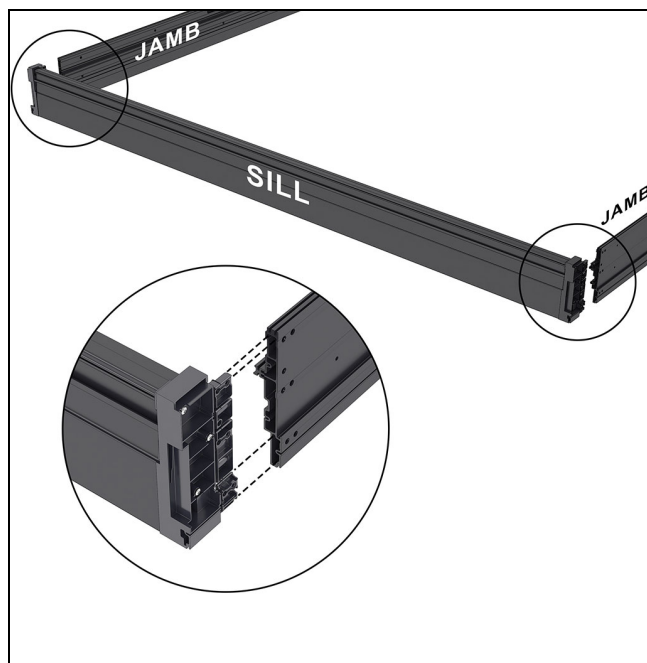

Figure 20
2. Slide the jambs over the sill corner keys (attached to the sill from the factory). See Figure 20